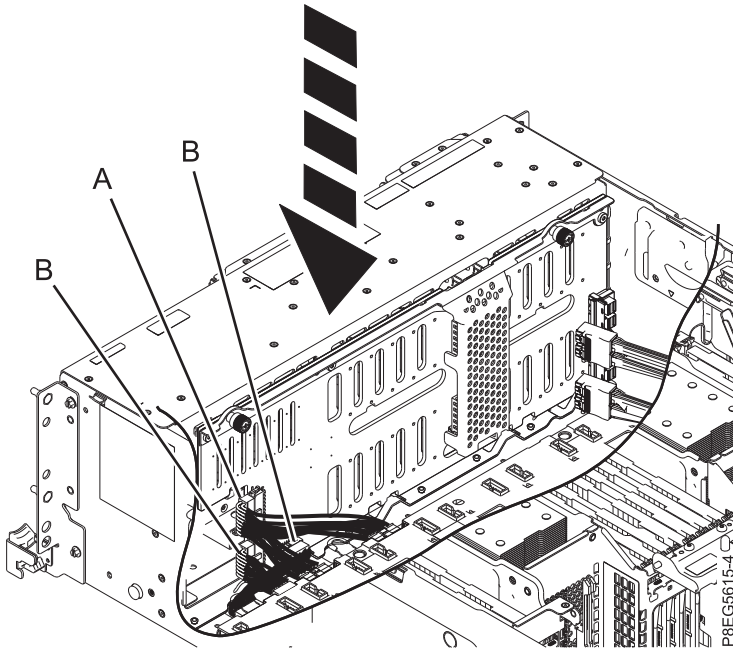

Figure 103. Reconnecting the power, signal, and control panel cables
36. Reconnect the signal and control panel cables (**A**), and the power Y cable (**B**), to the disk drive backplane and system backplane as shown in Figure 103 on page 102.